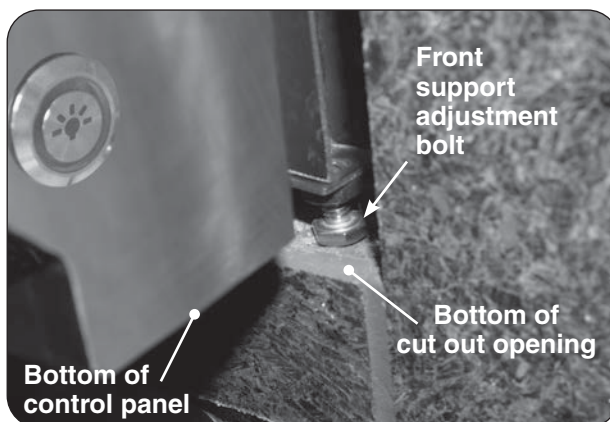

Fig. 20-3 Front support adjustment bolts
This outdoor built-in grill must be supported by the stainless-steel hanger extending from the upper portion of the grill. The hanger rests on the left, right, and back of the countertop and on the two front support adjustment bolts located below the control panel on the left and right sides (see Fig. 20-3).
2. Rotate the front support adjustment bolts to the left to raise and to the right to lower the respective side of the appliance. Use a  $\frac{7}{16}$ " open-end wrench as needed. See Fig. 20-3.